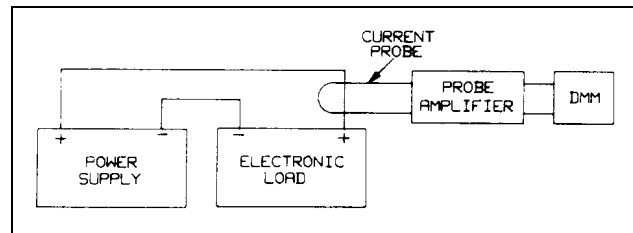

Figure 2-3. Test Setup C
- a. Connect the Electronic Load, power supply (Agilent 6032A or equivalent, DMM, and current probe as shown in Figure 2-3. Set power supply for 60V and >10A.